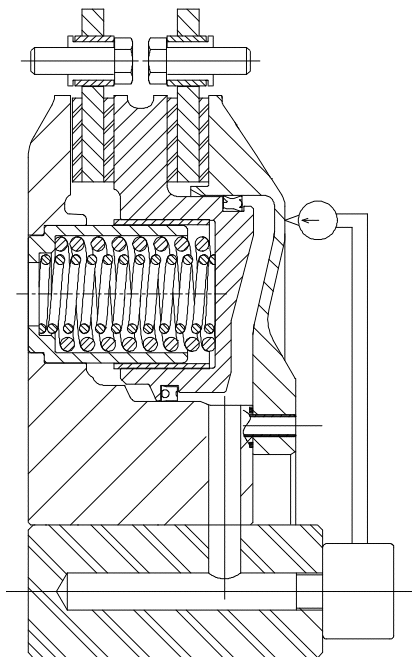

Figure 4
- 2.3.6 Check CBC for angular runout using a square or dial indicator(see Figure 4). Maximum angular runout is .0005" TIR per inch of diameter with a maximum of .010".
Illustration shown in Figure 4.